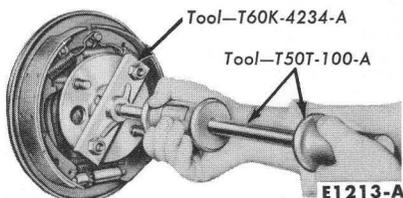

FIG. 1—Axle Shaft Removal
3. Working through the hole provided in the axle shaft flange, remove the nuts that secure the wheel bearing retainer. Then pull the axle shaft assembly out of the axle housing (Fig. 1). **The brake carrier plate must not be dislodged. Install one nut to hold the plate in place after the axle shaft is removed.**